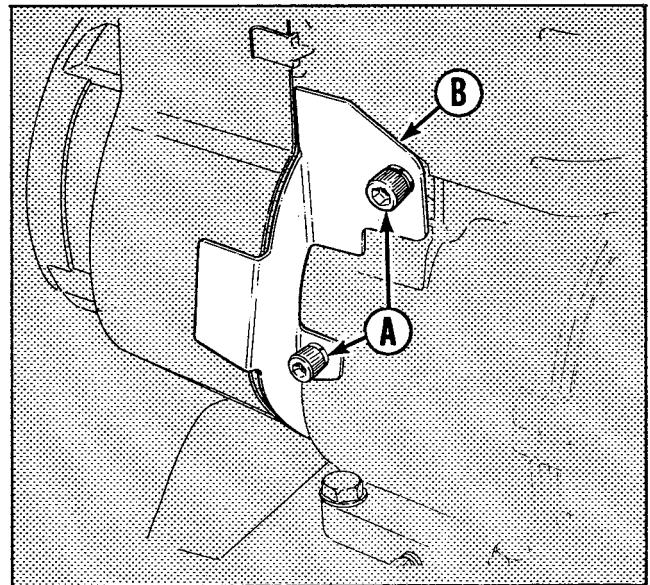

FIGURE 4
7. Remove the two Allen screws (A) and engine cover plate (B) from the front of the engine. (See figure 4.)